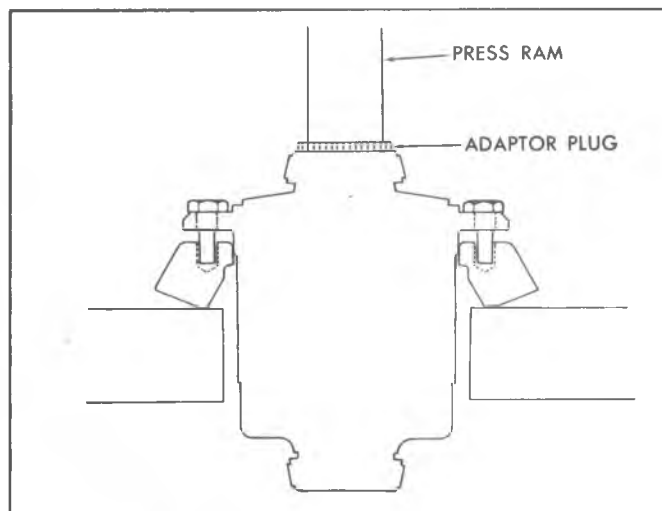

Fig. 5B--Ring Gear-to-Case Installation
- Liberal coat the differential case pilot with hypoid lubricant. Pre-align ring gear and differential case bolt holes, and press on adaptor plug J-8107-4 to initially start ring gear on case pilot, as shown in figure 5B.